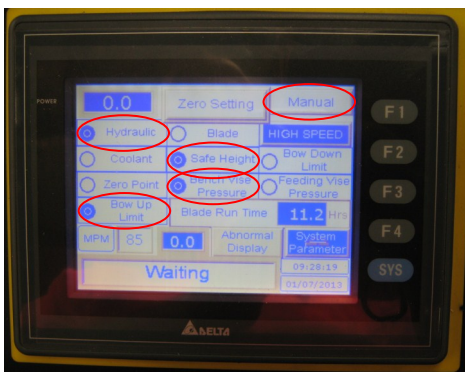
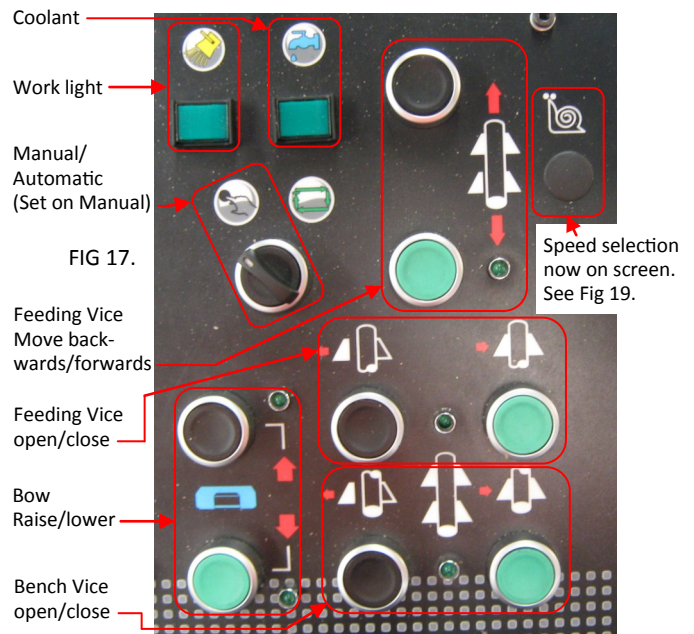

FIG 10.
FIG 17.
Saw must be calibrated (Section 2.) and switched to “Manual”. (Fig 10. & Fig 17.) Turn on coolant & work light if required and set Down Feed & Speed (Section 4.) Set the blade speed (Section 3.) Blade feeds and speeds can be adjusted at any time.
Saw must be calibrated (Section 2.) Both vices must be closed (in “Manual” mode). (Fig 10. & Fig 17.) Turn on coolant & work light if required and set Down Feed & Speed (Section 4.) Set the blade
Switch to “Automatic” (Fig 17.)
- 1) **BOW UP.** Pressing the “Bow Up” button (Fig 17.) during a cut in “Manual” mode or a cycle in “Automatic” mode will cancel the cut and raise the Bow to its set limit.